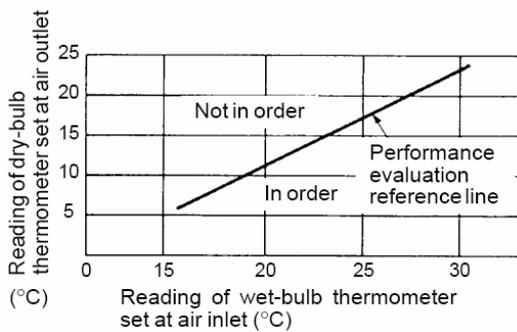

Fig.18-12
(2). Draw a point using above data on below figure, it is proper if the point is below the judgment line. (see fig 18-12)